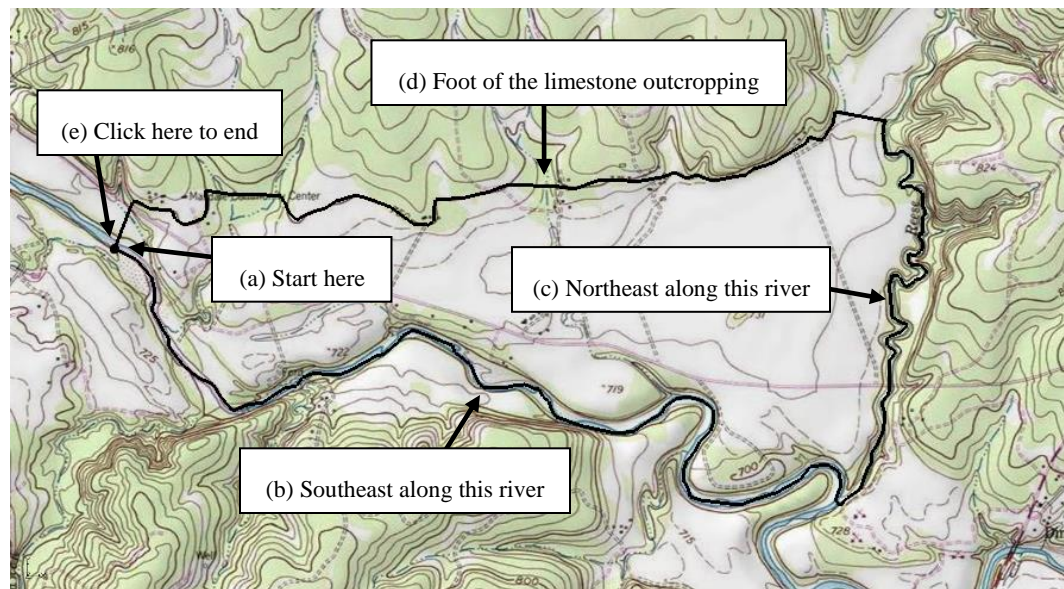

Figure 3 Creating the boundary arc
2. Using the **Create Arc**  tool, click out an arc beginning at point (a) in Figure 3, following the river southeast as shown (b), then northeast from the convergence (c), then along the foot of the limestone outcroppings on the north (d) until back at the start point (e). Don't worry about the spacing or the exact location of the points; just use enough points to define the approximate location of the boundary.